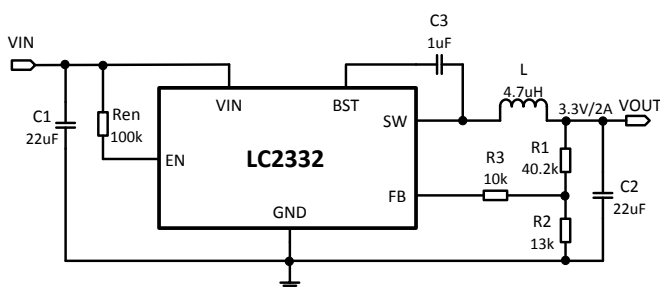
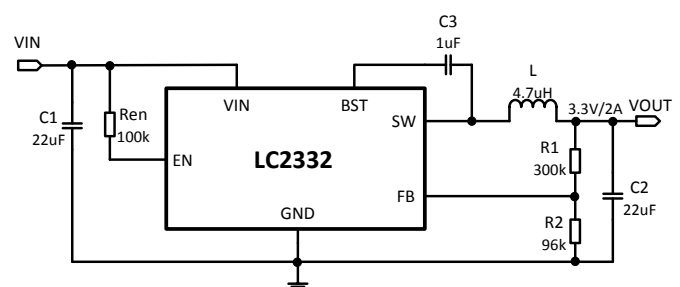

Figure 1.
Figure 2.
2) The resistance R3 in Figure 1 makes the loop more stable. If it isn't used, the resistance R1, R2 should be adjusted (See Figure 2.). The value of R1 is recommended to be about 300kΩ.